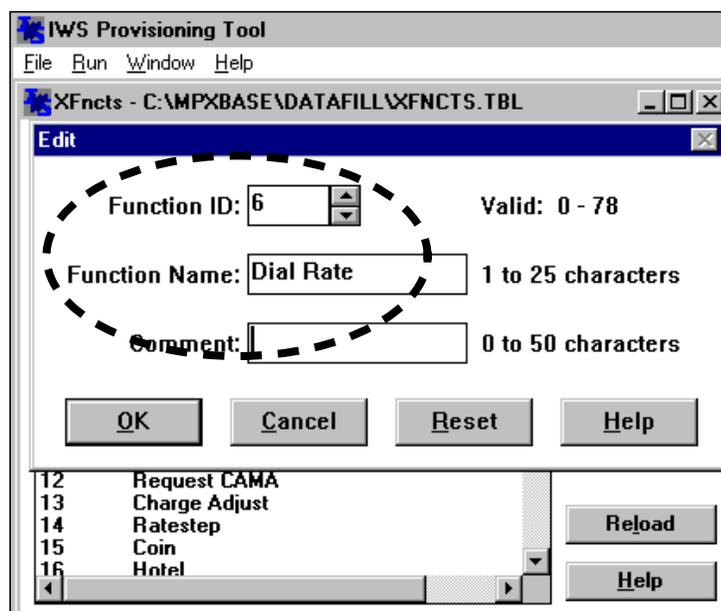

FIGURE 120. Example of Add dialog box for an XFNCCTS table file
DO NOT separate the function ID from its function name. To facilitate adding or removing functions, you can alter the Function ID field shown in Figure 120. Thus you can change the number in the Function ID box to any value between 0-78, but selecting function ID “6” will continue to invoke the Dial Rate function.
8. To add data, select Add to open the Add dialog box. (See Figure 120.)